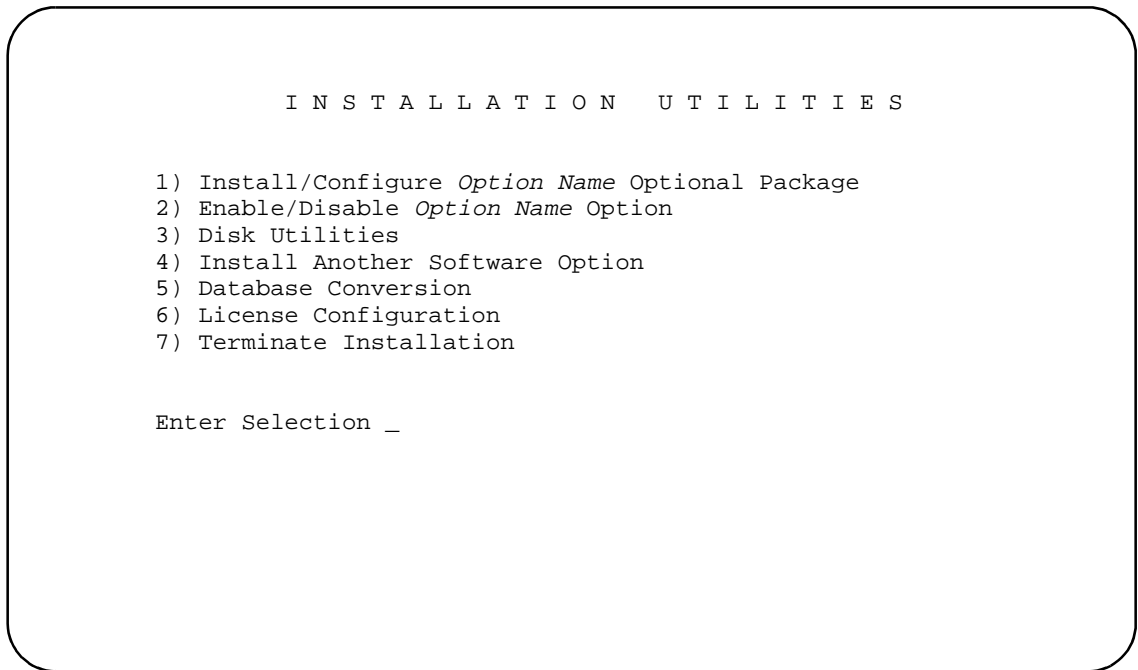

Figure 3.2: Optional Software Installation Utilities Menu
5. Remove the current diskette from the drive, insert the optional software diskette and press **Return**. The Installation Utilities menu specific to the software option appears (Figure 3.2).
- b. To back-up the data base, type **Y** and press **Return**. The installation is aborted and the optional Installation Utilities menu appears (Figure 3.2). Instructions for backing up the system data base are provided in *Section 3.6.1*.